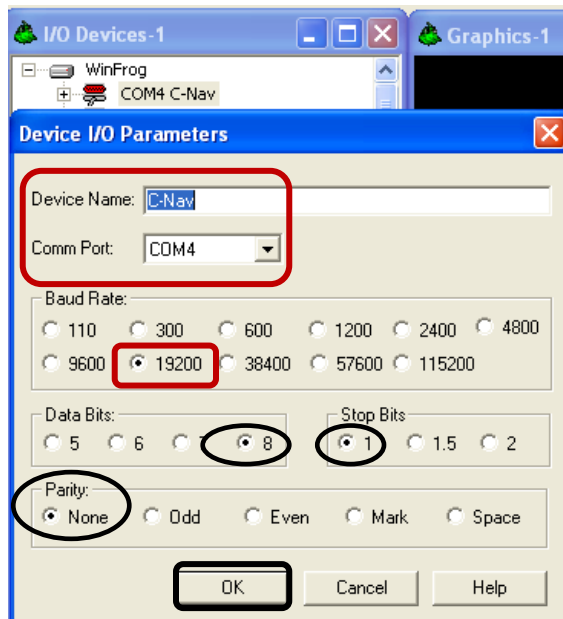

Figure 6
4.5 After “OK” has been clicked, verify the **“Device I/O Parameters”** are set. See Figure 6